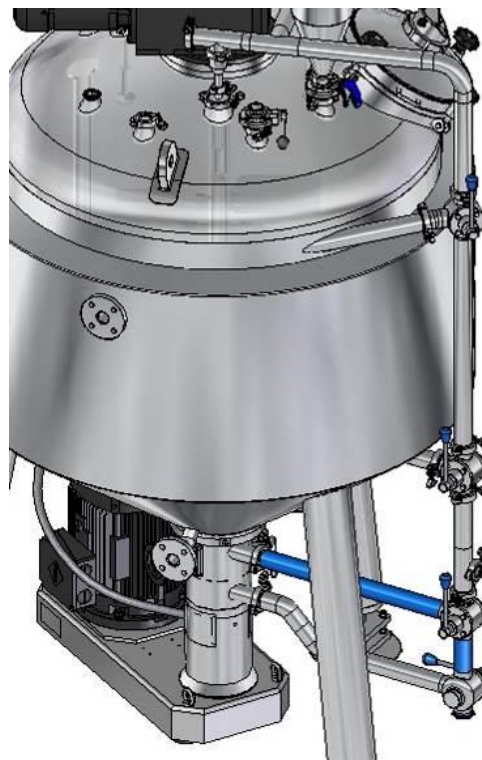

Fig 6.6. Circulation without discharge shearing
- Circulation without discharge shearing (Fig 6.6)